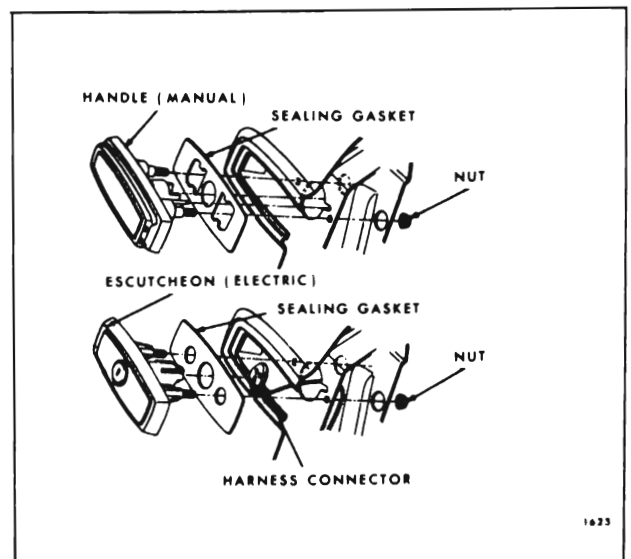

Fig. 9-14—Tail Gate Outside Handle Assemblies
3. Remove nuts securing handle (or key switch) to tail gate and remove handle and sealing gasket. (See Fig. 9-14).